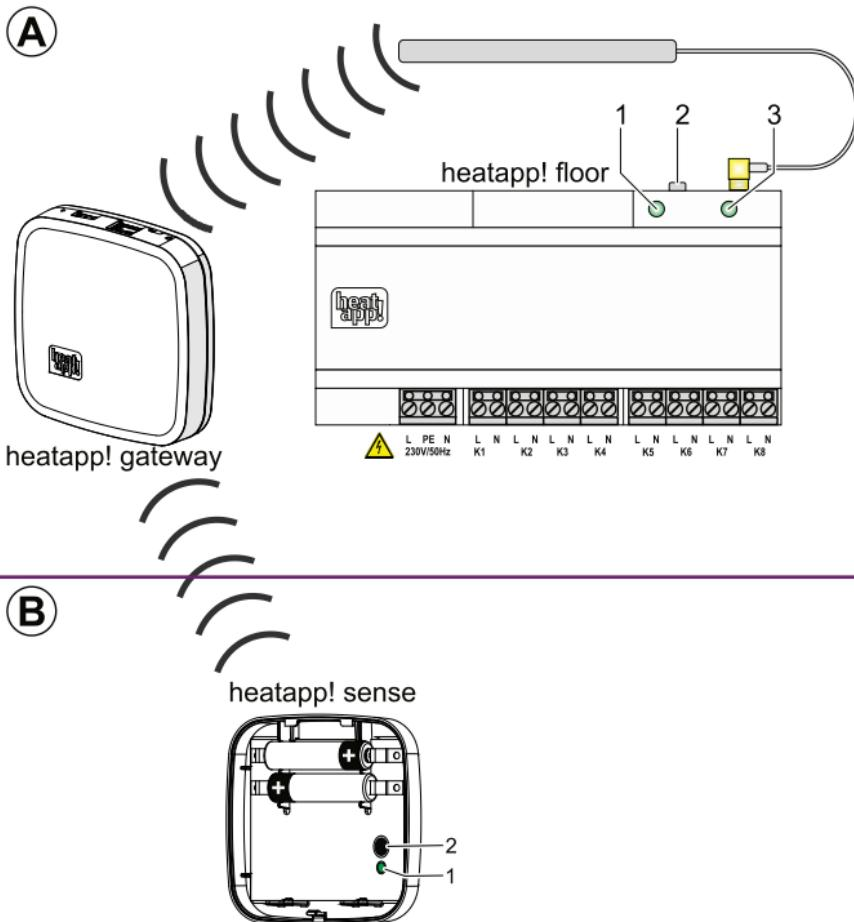

Fig. 8: Registering heatapp! floor / heatapp! sense
1. In the menu of the **heatapp! gateway** select the menu item "*Register / deregister*" under "*Radio modules*" and then "*Register*". You are requested to press the learn key (Fig. 8, item 2).
2. Press the learn key (Fig. 8, item 2) for 2 seconds (see also section 3.4.1.2 "Functions of the learn key", line "b").